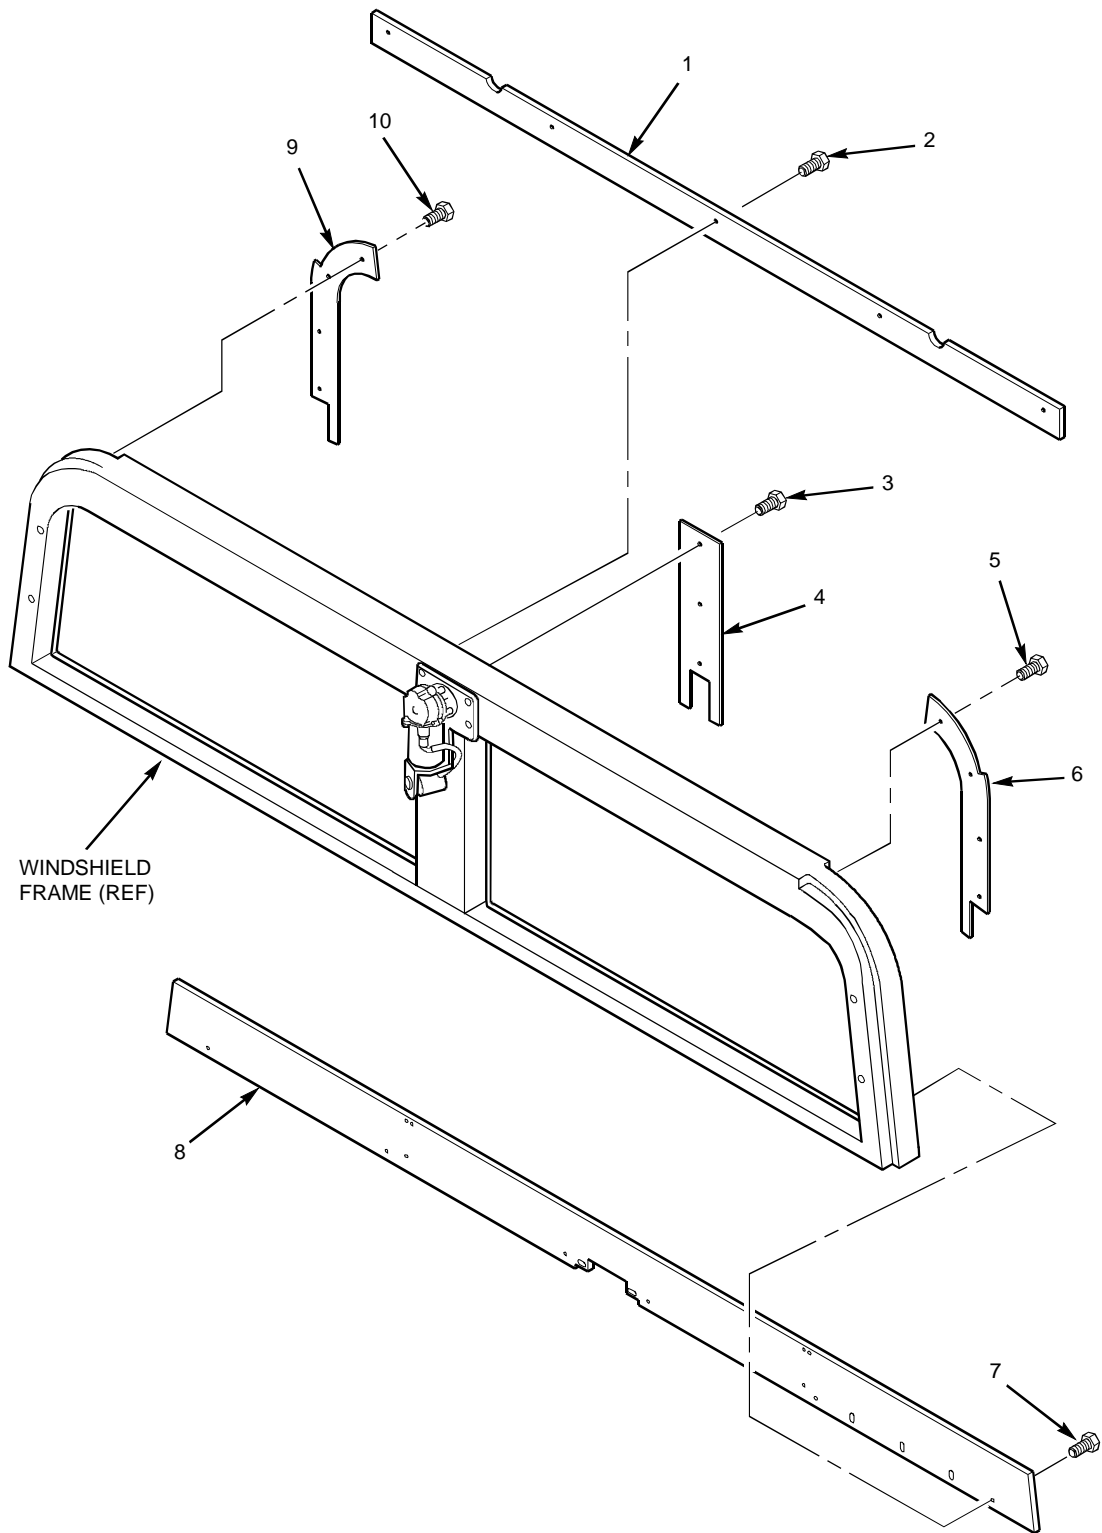

Figure 2-1. Windshield Armor Removal (2 and 4 Door)
1. Remove windshield armor and windshield glass (see figure 2-1).
- a. Remove three capscrews (3) and center capping ring assembly (4) from vehicle.
- b. Remove five capscrews (2) and upper capping ring assembly (1) from vehicle.
- c. Remove four capscrews (10) and left capping ring assembly (9) from vehicle.
- d. Remove four capscrews (5) and right capping ring assembly (6) from vehicle.
- e. Remove five capscrews (7) and lower capping ring assembly (8) from vehicle.